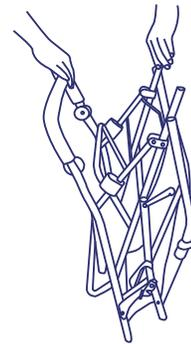

Fig. 1
- To attach the front wheels, unfold stroller as described in the section following. See figure 1.